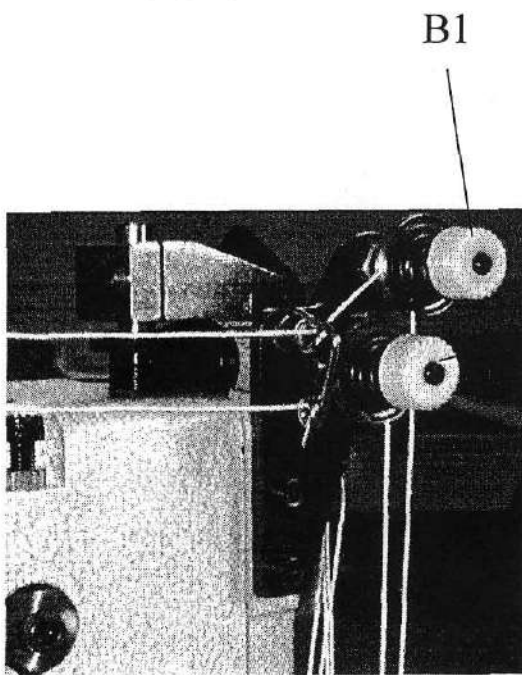

Fig.1
- Needle thread tension of main tensioner **B1**、**B2** to regulating main needle thread tension ◦ (Fig.1)